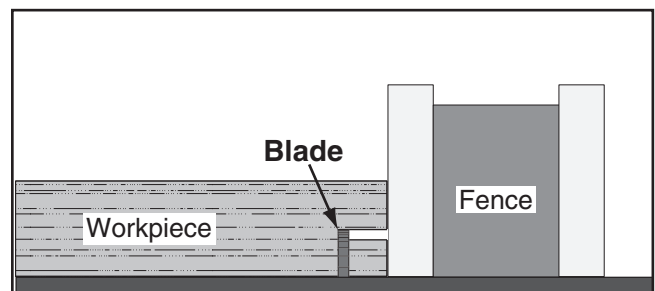

Figure 58. Second cut to create a rabbet.
7. Lay the workpiece flat on the table, as shown in **Figure 58**, adjust the saw blade height to intersect with the first cut, then perform the second cut to complete the rabbet.